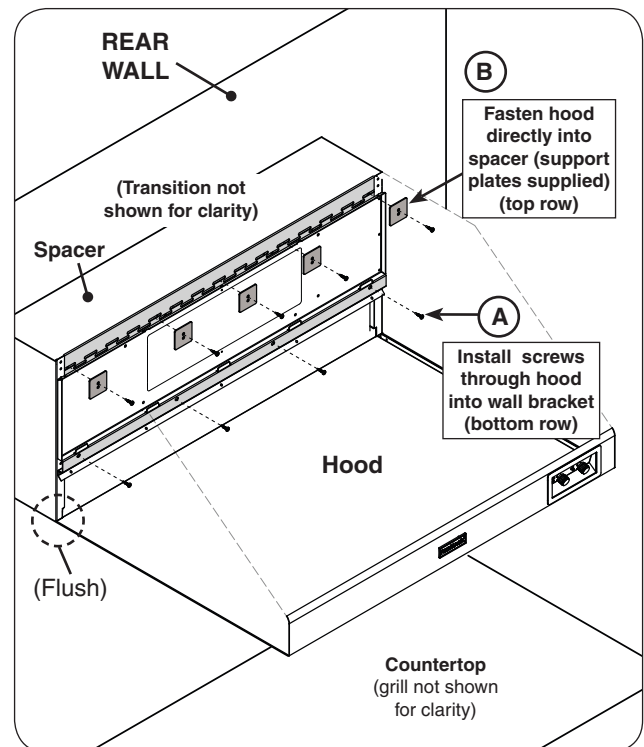

Fig. 15-2 Secure vent hood (42" shown)
3. Ensure the sides, top, and bottom of the vent hood sit flush with the spacer. See Fig. 15-2. (The spacer will already be finished with any applicable substrate, to allow for the vent hood to rest flush.)
4. From the inside of the vent hood, fasten the hood to the bracket using a medium Phillips screwdriver and the 1/4-20 screws supplied with the vent hood (previously removed at beginning of installation). See Fig. 15-2, A.
5. From the inside of the vent hood, using appropriate mounting hardware for the spacer construction, secure the top portion of the hood directly into the spacer. Use the supplied support plates when fastening, see Fig. 15-2, B.